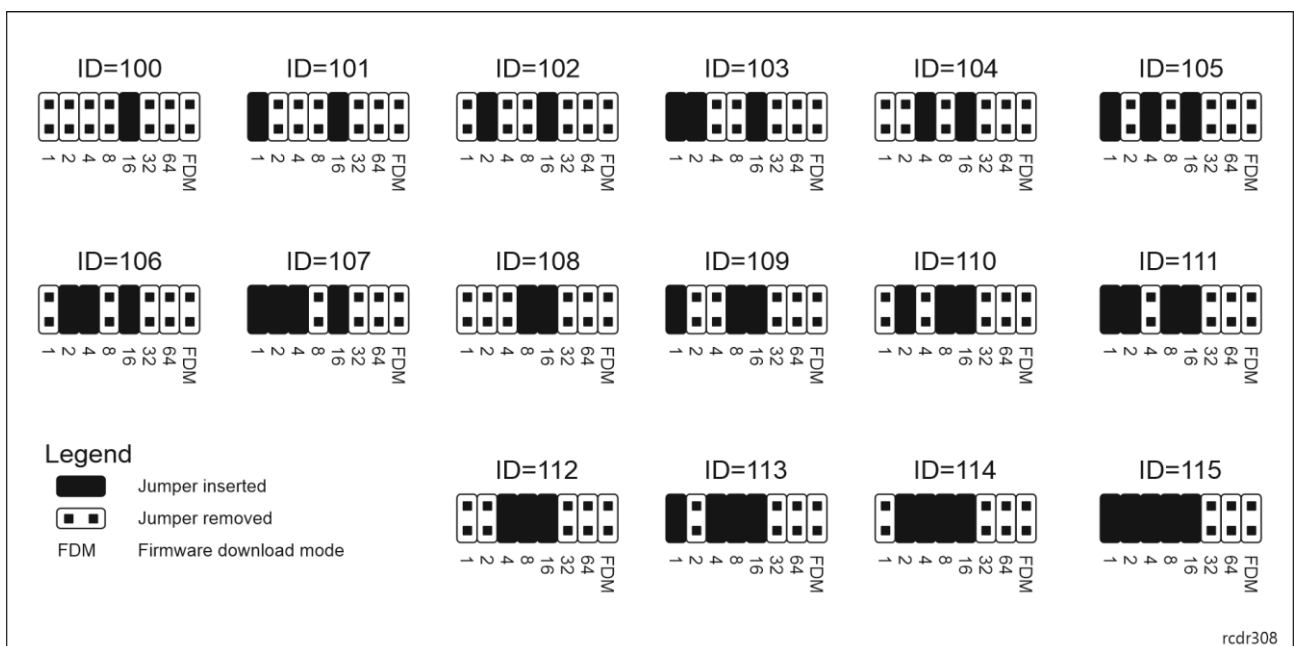

Fig. 8 Manual addressing of expander
1. Connect the device to RUD-1 interface (fig. 8) and connect the RUD-1 to computer's USB port.